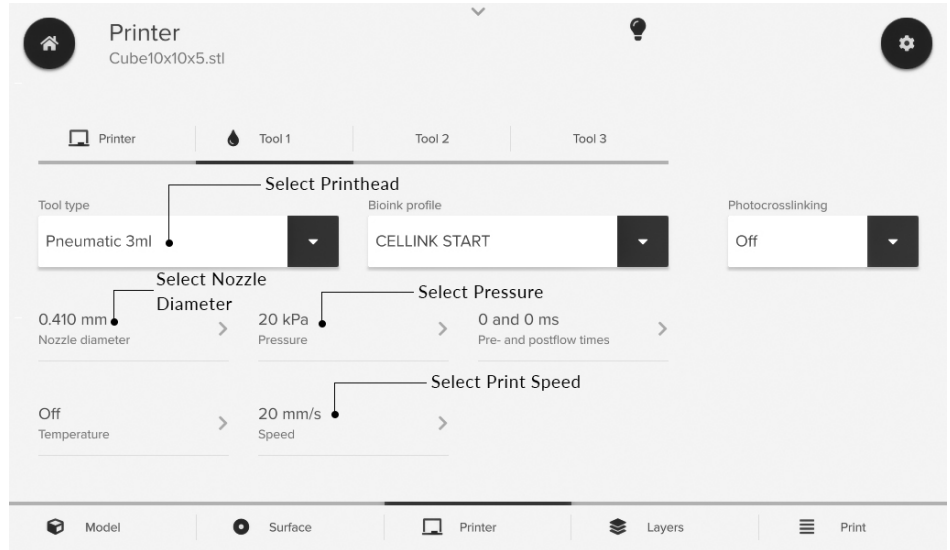

Figure 9: Printing parameters on the Printer menu.
5. Select printhead positions that have been set up. Ensure that Pneumatic 3-mL is selected under the printhead type (Figure 9).
6. Enter your printhead parameters (Figure 9) and proceed to the Layers menu. Parameters needed for the Pneumatic Printhead include: